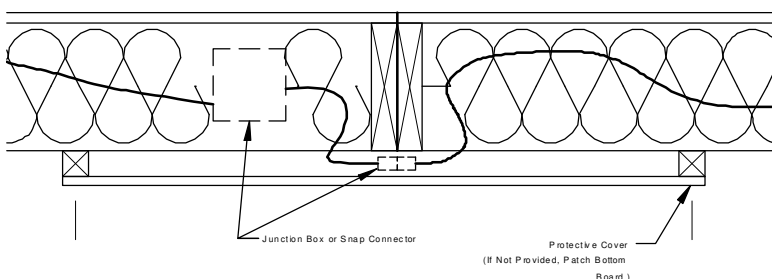

Figure 57. Floor electrical crossover wires with bumped-out access panel
2. **Route wires.** Pass the wires through predrilled holes or notches in the rim joist or if there is a single bumped-out access panel as in **Figure 57**, then under the rim joists. If holes or notches have not been provided and there is no bumped-out access panel, drill maximum one-inch diameter hole(s) half-way up the rim joists on each home section, making sure the holes align and feed the wire through the hole.